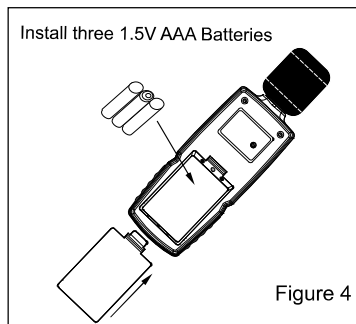

Figure 4
1. Open the battery cover, put 3 AAA size batteries of 1.5V, (see Figure4).